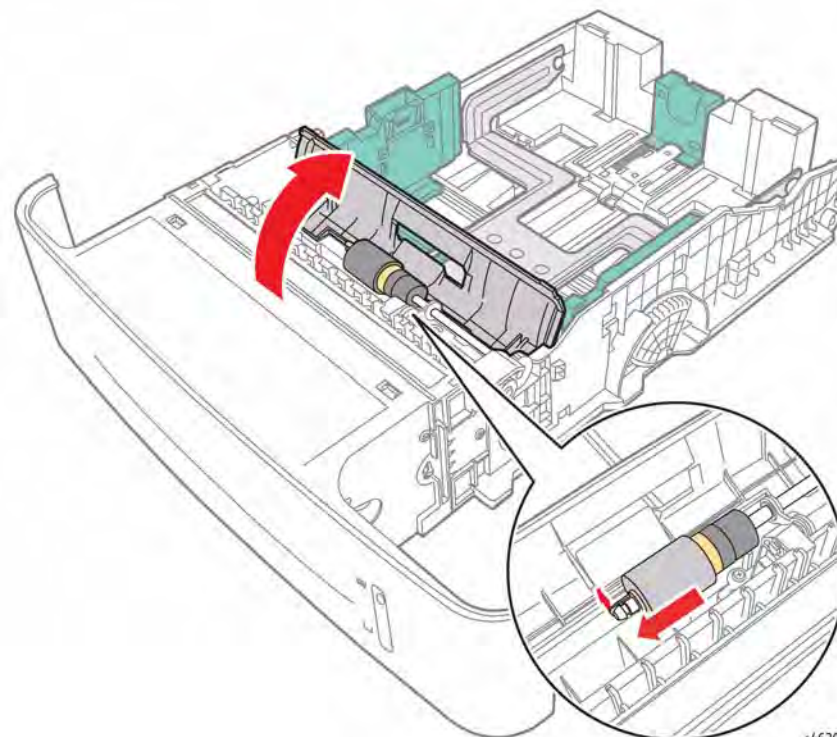

Figure 1 Remove the Separator Roller
3. Release the hook that secures the roller to the shaft and slide the roller off the shaft, Figure 1.